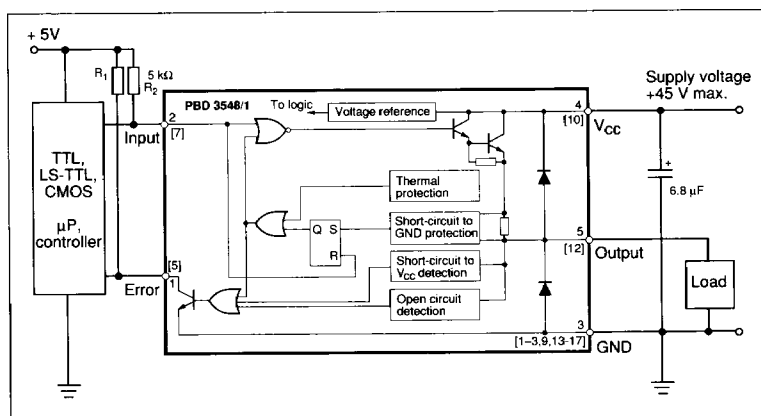

Figure 19. Typical application. Pin numbers refer to TO 220 package.
3. Connect Input and Error via pull-up resistors to the appropriate logic supply level or V_{CC} to obtain highest noise immunity. See figure 19. The resistor R_1 limits the current into the Error indicator